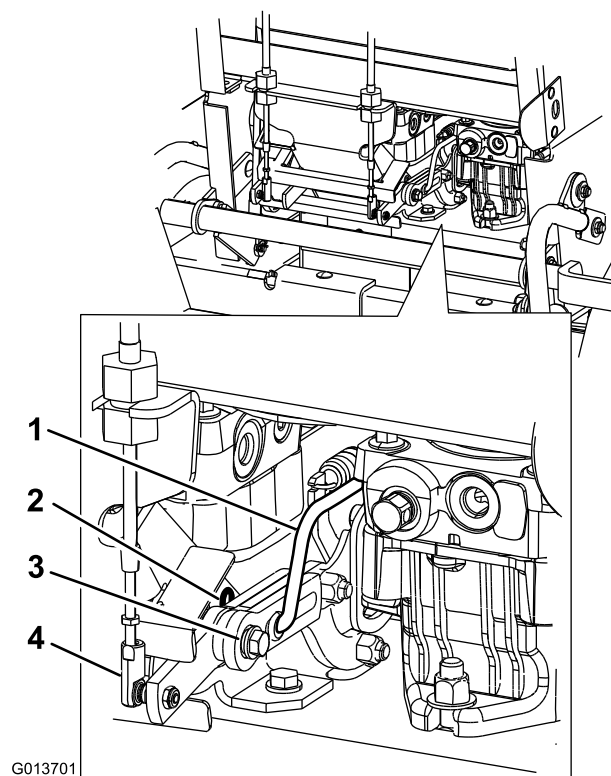

Figure 2
3. Remove the hairpin cotter pin and washer from the existing control linkage. Remove the existing control linkage from the forks and pump arm (Figure 2).
4. Remove the cable end from the fork (Figure 2).
5. Remove the cable end from the cable (Figure 2).
6. Remove the bolt, nut, spacer and washers from the fork and the upper and lower switch brackets (Figure 2).